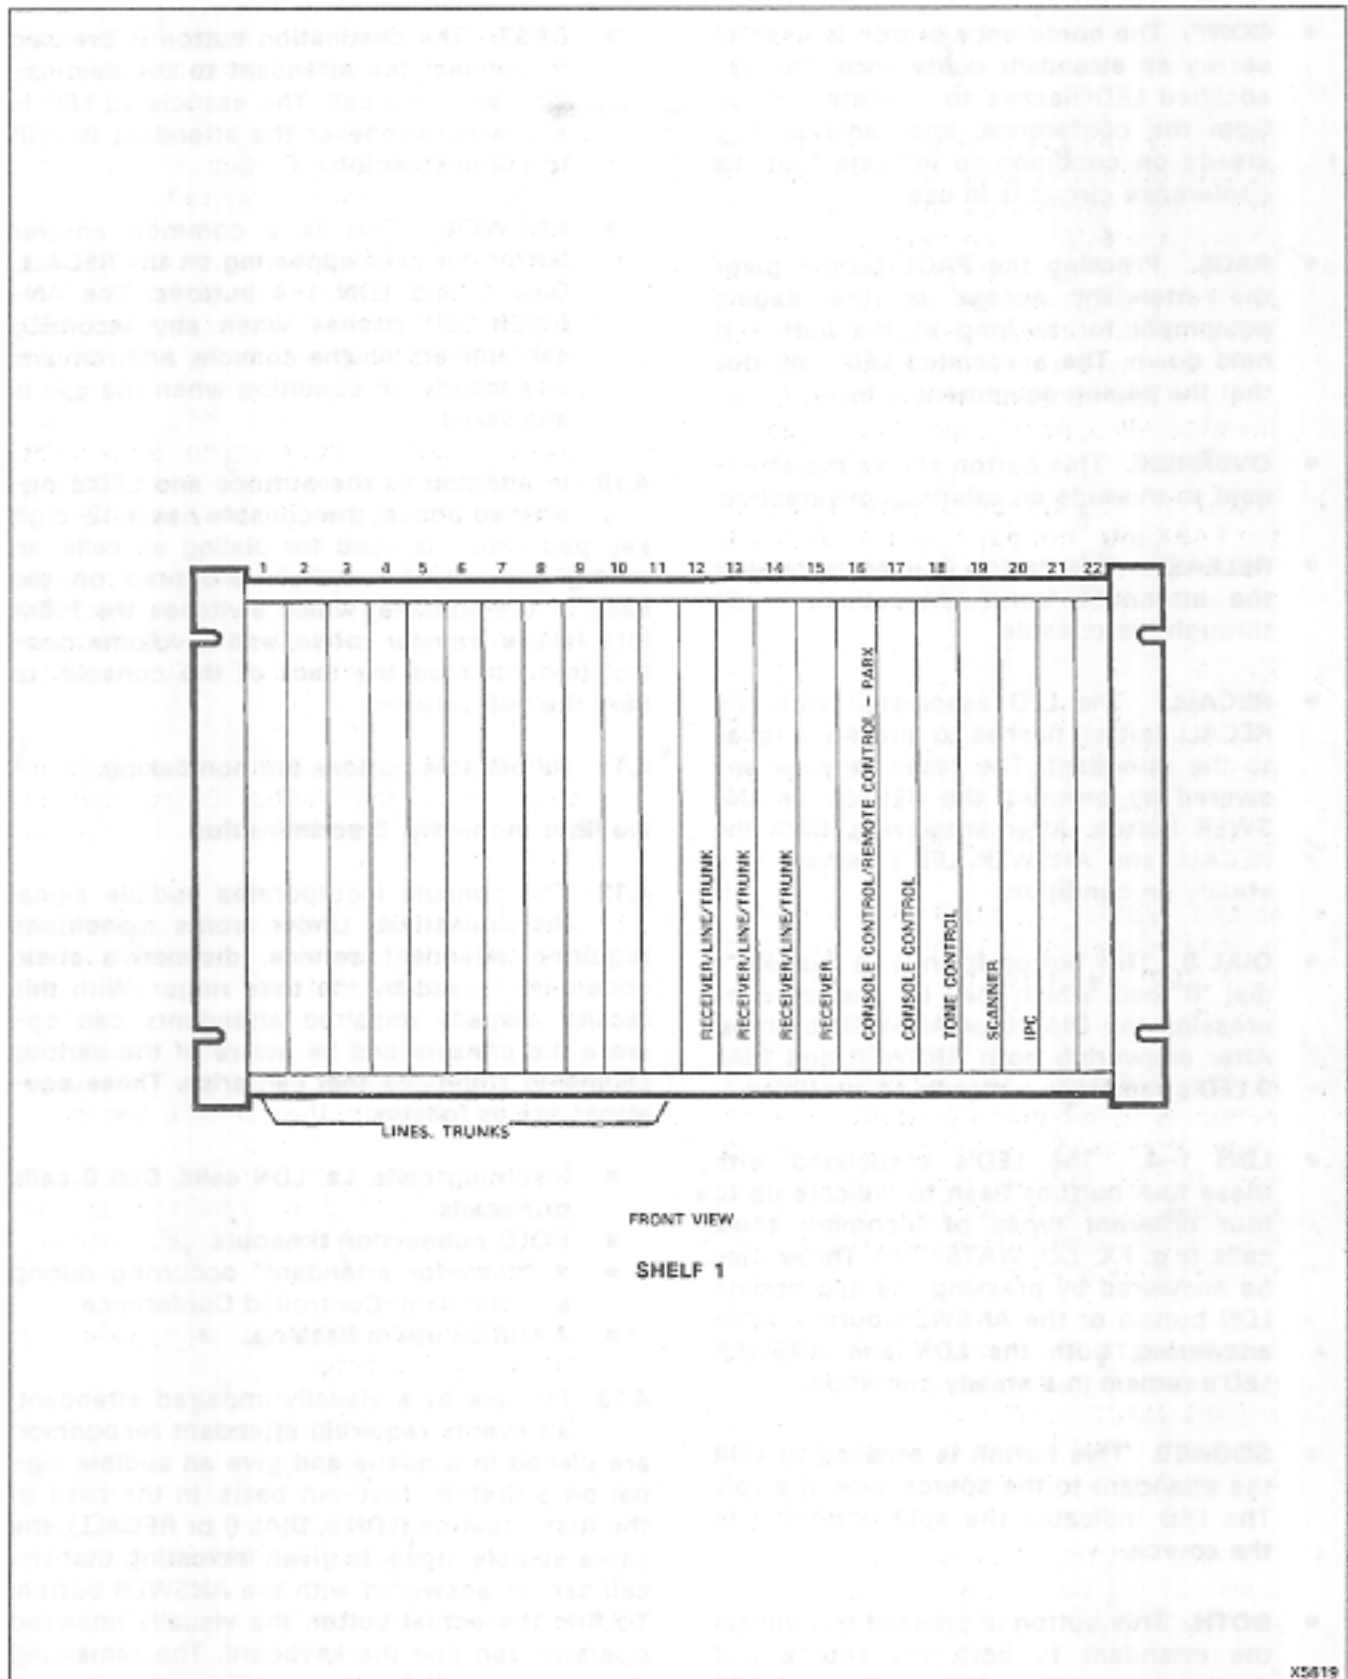

Fig. 4-1 Equipment Shelf
4.02 The equipment shelf contains the three common control cards plus the required number of line, trunk, console control and receiver cards. The common control cards are color-coded and held in card positions 18 through 20. The console control cards occupy positions 16 and 17, and the first receiver card position 15. These card positions are fixed for all systems. Card positions 1 through 14 may be equipped with line, trunk or receiver cards as shown in Fig. 4-1.